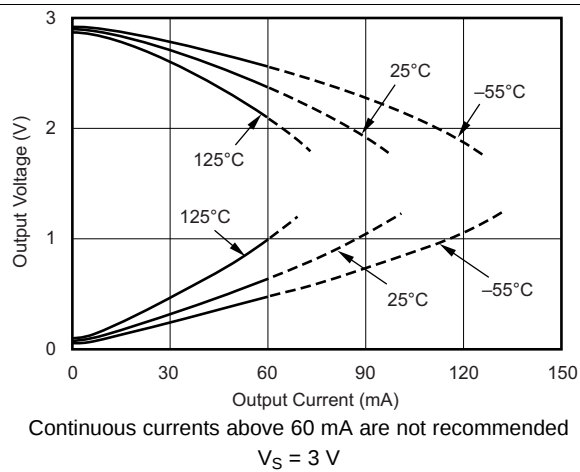
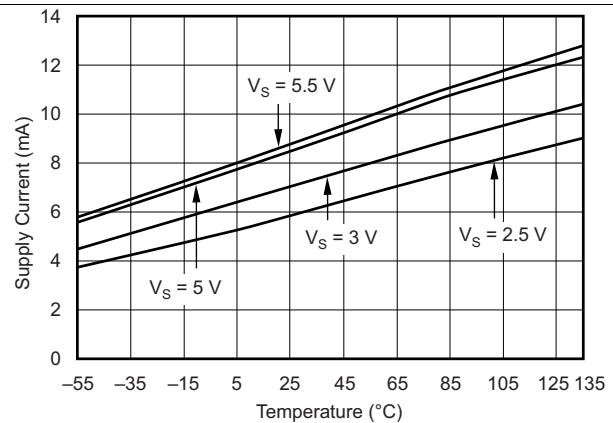
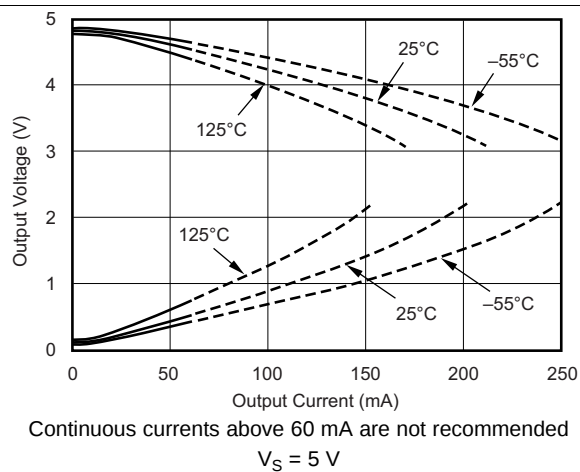

FIG 21. Output Voltage Swing vs Output Current
FIG 22. Supply Current vs Temperature
FIG 23. Output Voltage Swing vs Output Current
(1) See the *Output Voltage Swing vs Output Current* (Figure 21 and Figure 23) in the *Typical Characteristics* section.
(2) Logic LOW and HIGH levels are CMOS logic compatible. They are referenced to  $V_-$ .
Running a continuous DC current in excess of  $\pm 60$  mA is not recommended. See the *Output Voltage Swing vs Output Current* graphs (Figure 21 and Figure 22) in the Typical Characteristics section.